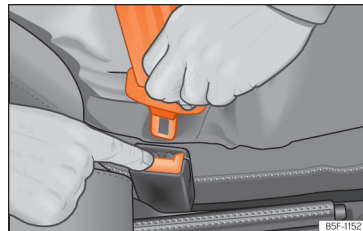

Fig. 11 Release the seat belt's buckle.
- Press the red button on the buckle » » » **Fig. 11**. The latch plate is released from the buckle.